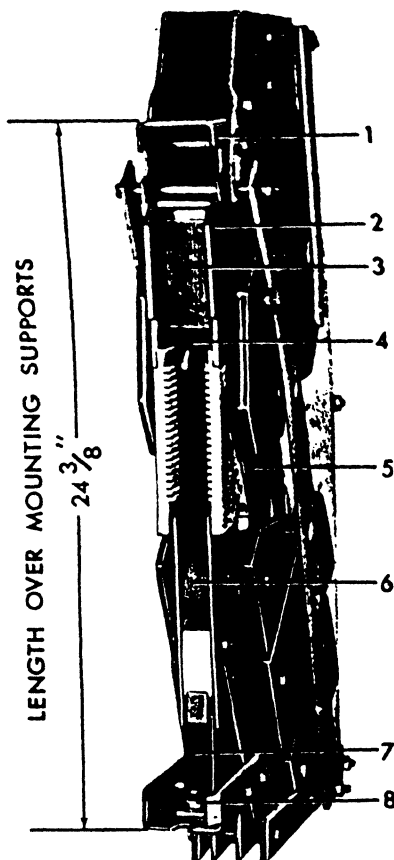

Figure 20. (8040392) Interrupter Assembly
5. Remove the lower interrupter support (19) by removing the assembly bolts (20) Figure 18 and the connection nut (8) Figure 20.
6. At this point, the side shields (5) Figure 20, and the upper arc runner assembly (2) can be removed. On the "-6" design the throat coolers (8) Figure 19B, are permanently affixed to the side shields.